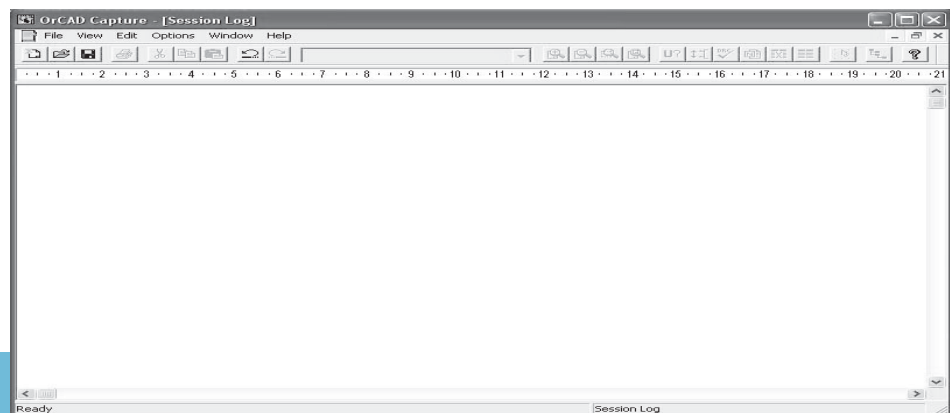

FIGURE 2.59 Main page of PSpice.
1. Click on the PSpice icon and open the main page. Figure 2.59 shows a screenshot of the main PSpice page: